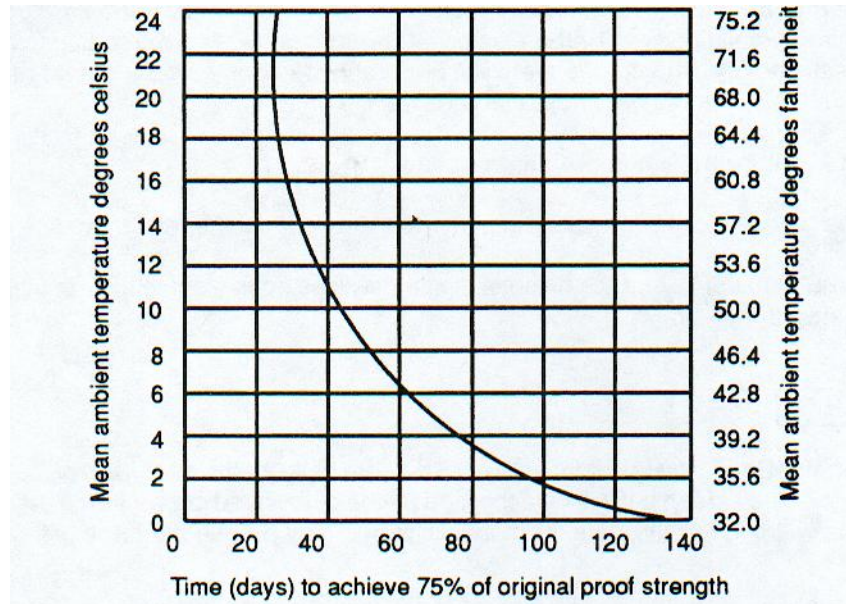

Figure 2-1 Temperature/time curve for strength restoration
**Artificial ageing of alloy 232B is not permitted. Components repaired by welding will suffer a serious loss of proof strength in the heat affected zone and this can only be restored by natural ageing. Protective coatings such as zinc and paint must be applied as soon as possible after repair. For a component to achieve 75% of its original proof strength it should be stored in accordance with figure 2-1.**